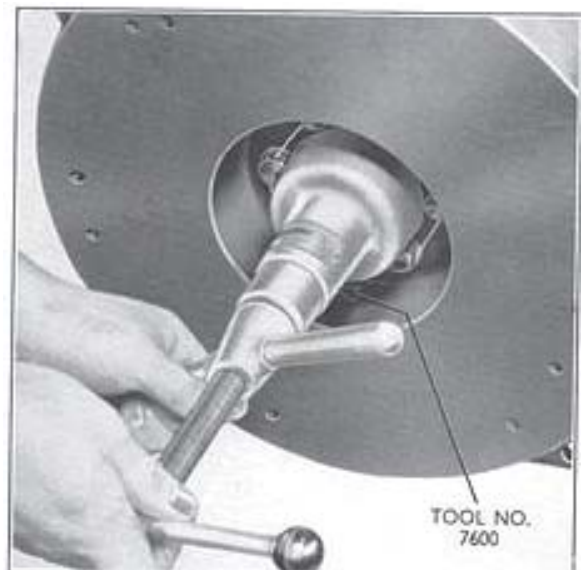

Fig. 19
3. Withdraw the clutch pilot bearing from the flywheel, using the remover (Main Tool No. 7600 and adaptor CPT.7600-3) as shown in Fig. 19.